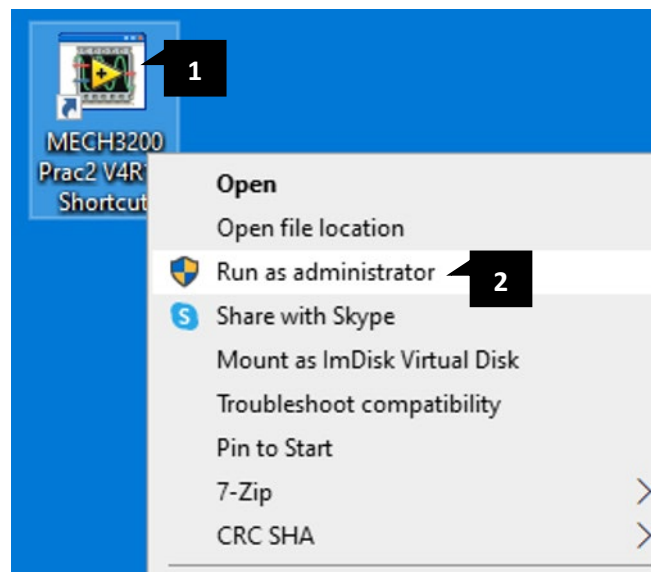

Fig. 8. Run the LabView file as an administration
1. On the PC's Desktop, Right-click **1** icon of the "MECH3200 Prac2 VG4R1" and **2** "Run as Administration", as shown in Figure 8.